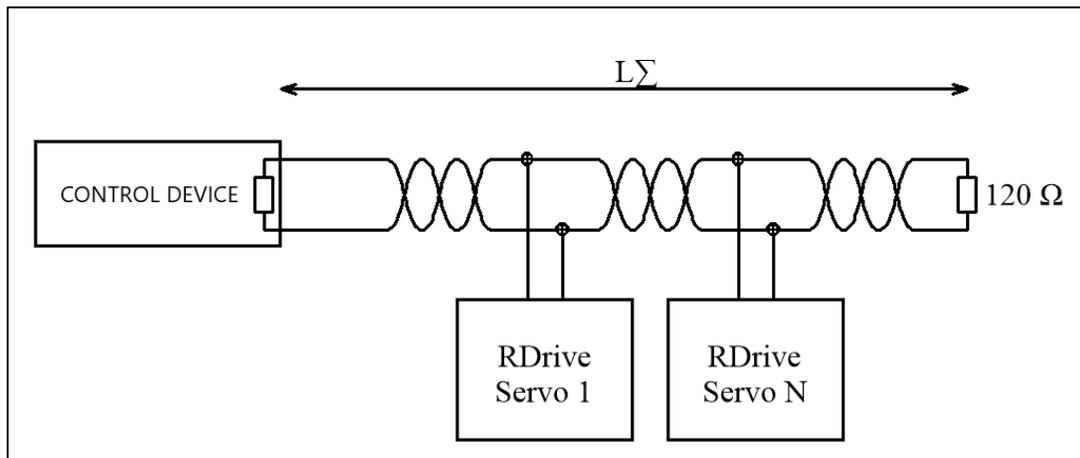
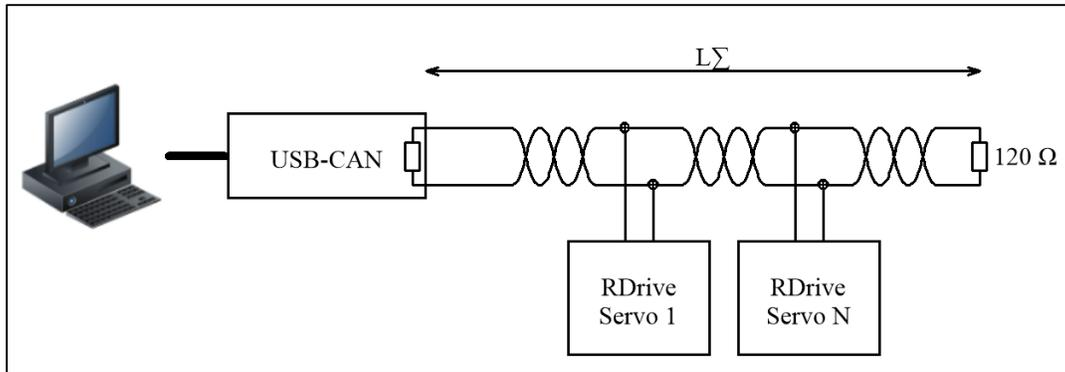

Figure 4-1: Direct CAN connection
Figure 4-2: CAN-to-PC connection
- The configuration should be as shown in Figure 4-1 (for direct CAN connection) and Figure 4-2 (for CAN-to-PC connection).